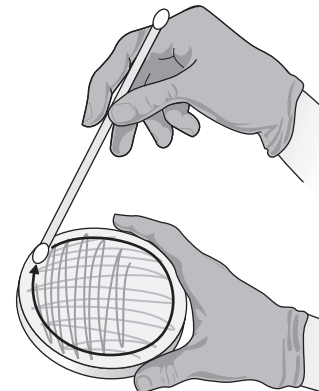

FIG. 10.5.
- Go around the rim of the plate once or twice with the swab to make sure that there are no sections untouched by the inoculum (Fig. 10.5).